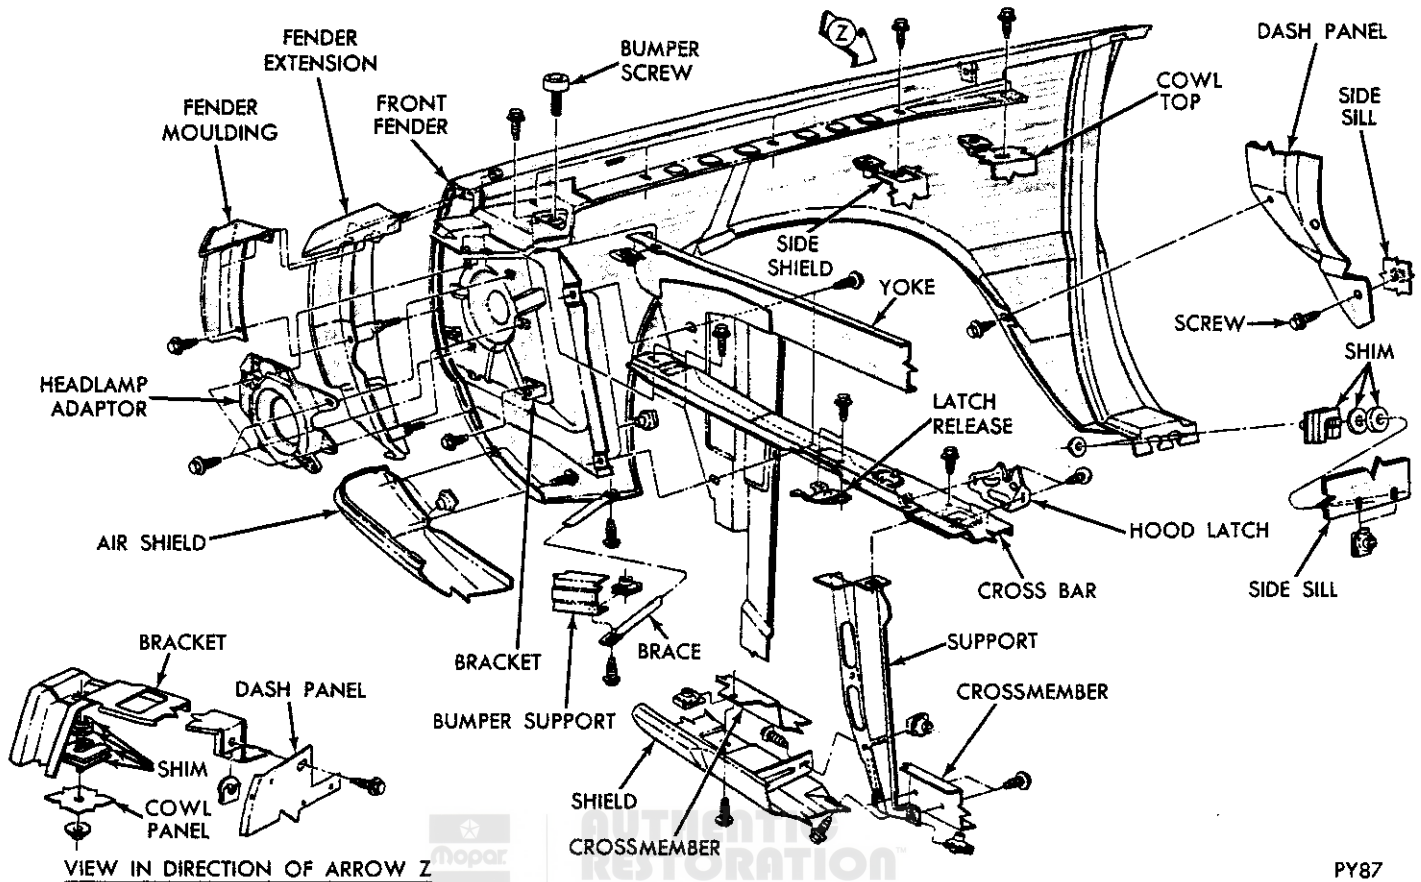

Fig. 9—Fender Attachment—Dart
The fender should be adjusted to provide for equal spacing at the cowl, door front edge and door top edge. Alignment should be made at bottom of floor sill panel, front of hood and door outer panel upper edge (Fig. 9).
- (2) Tape leading edge of front door and cowl to fender area to avoid damaging paint.
- (3) Remove front bumper assembly.
- (4) Disconnect head lamp wires and remove grille extension to fender nuts.
- (5) Remove nuts and screws attaching fender to cowl, floor sill, splash shields and radiator yoke (Fig. 9).
- (6) Remove fender assembly and if necessary remove fender mouldings, ornamentation and head lamp assemblies.